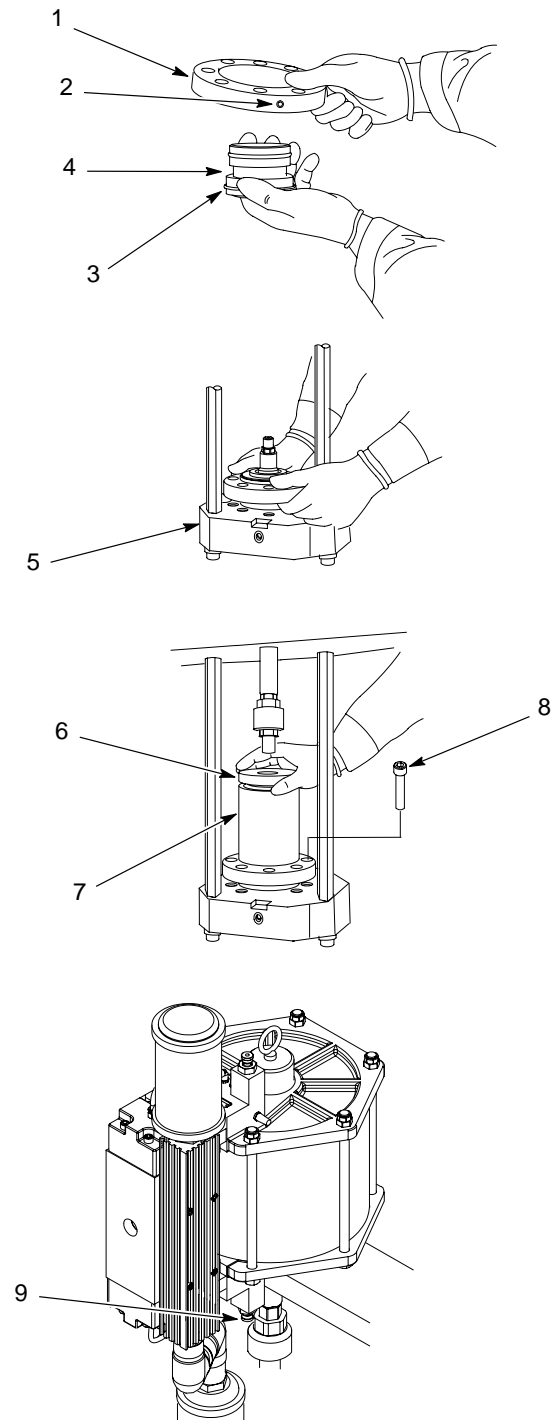

Figure 2 Installing the Packing Gland
OFF	<ol style="list-style-type: none"> See Figure 2. Clean upper collar (1). <p>NOTE: Some O-ring lubricants may react with your dispensing material. Contact your Nordson Corporation representative to determine the correct O-ring lubricant to use.</p> <ol style="list-style-type: none"> Lubricate packing gland O-ring (3), I.D. of packing gland V-rings, and bushing area with O-ring lubricant. Install upper collar onto packing gland (4). Tighten set screws (2) until they make contact with packing gland. Do not over tighten. Install upper collar into pump body (5). Place solvent chamber (7) onto upper collar. Place packing gland insertion tool (6) on top of solvent chamber.